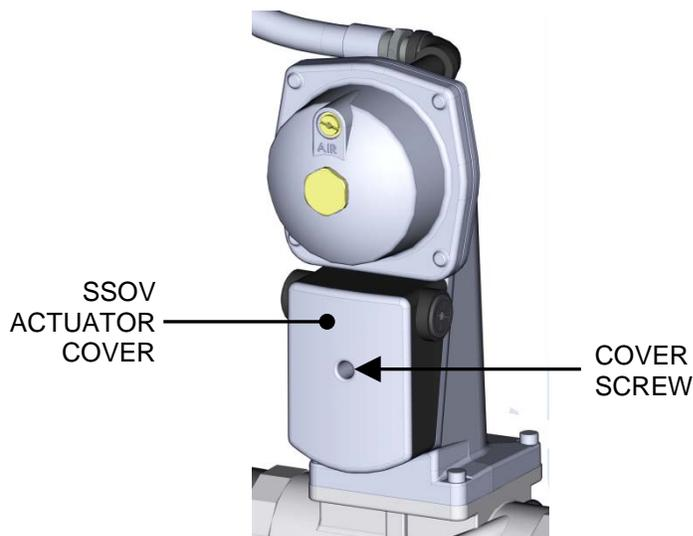

Figure 6-7: Downstream SSOV Actuator Cover Location
4. Remove the cover from the SSOV by loosening the screw, shown in Figure 6-7. Lift off the cover to access the terminal wiring connections.